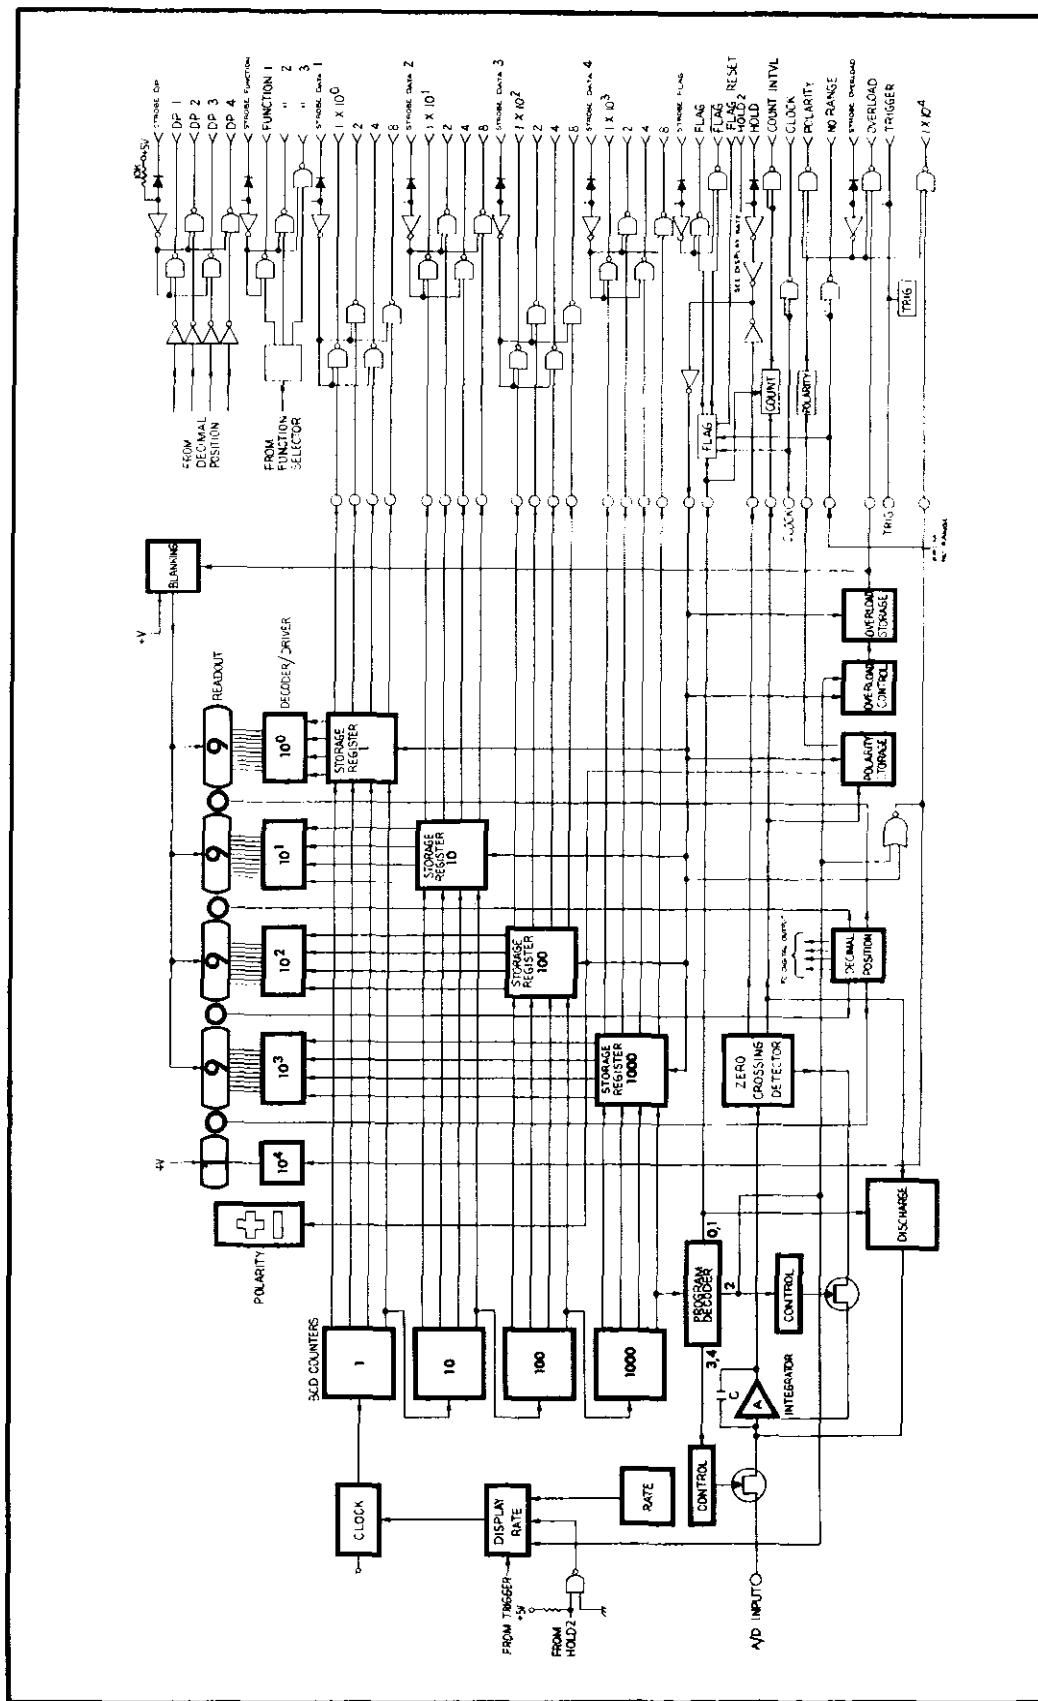

FIGURE 16. A-to-D Converter Block Diagram.
a. General. The digital section includes the analog-to-digital converter, digital display, and digital output option as shown in Figure 16.
3. The A-to-D converter is composed of six major circuits as follows: (See Figure 16 for a block diagram.)
d. Digital Output Option. The digital output includes output buffers for all output information. The buffers utilize "Open Collector" output transistors as shown in Figure 6. The buffer stages have provision for optional "STROBE" control as shown in Figure 16.